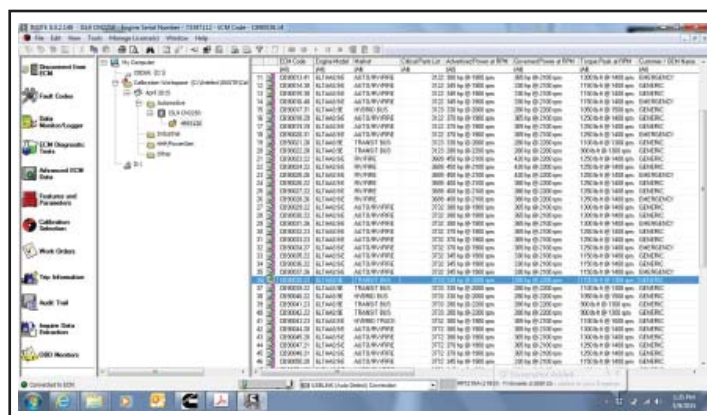

Figure 16 - Opening the Calibration Work Space
1.16. Open Calibration selection Calibration work space – open the following: - April 2015; - Automotive; - ISL9 CM2250; - 4993120 Then select software CB90038 to the right and right click on it. See Figure 16.